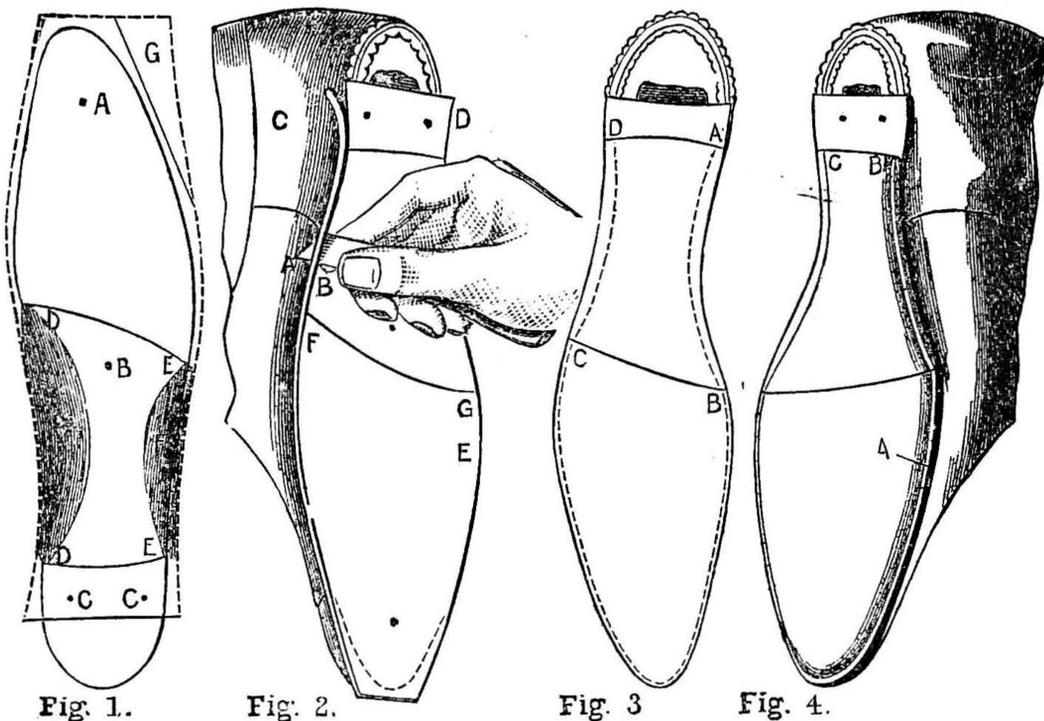

Fig. 1. Fig. 2. Fig. 3. Fig. 4.
*Construction of Parts and Putting Together.*—In Fig. 1 we have a front view of the table complete. Fig. 2 shows a side view of the same, and shows the bars between the two legs. This table will afford a good opportunity for those possessing lathes to turn the legs themselves. Fig. 3 is a view of the top. The lines marked have to be sawn through for the folding, and they had better be sawn through in a sort of half an S form, to enable it to fold better. The edges of the wood may be rounded off, to give it a better appearance. A convenient
lines in Fig. 4; the flap falls down parallel with the legs of the table. Fig. 6 is a plan of the bottom of the two legs, as shown in Fig. 1. At the back of this (Fig. 6) two bars run across, and join a similar piece on the other side. The bar is shown running across in Fig. 2. In Fig. 7 we have a drawing showing the mode of securing the legs in A (Fig. 4); a mortise and tenon joint will do. The end of the wood (A in Fig. 4) must be finished off so as to hold the leg. Fig. 8 shows the joint for the two legs, as shown in Fig. 1, and is fastened on to B in Fig. 4. The end of B must be cut to receive it. A small screw run through the back of it will make it all the firmer.
Folding Table. Fig. 1.—Front View of Table. Fig. 2.—Side View. Fig. 3.—Top of Table, with Lines for showing Folding. Fig. 4.—Showing Construction underneath the Table. Fig. 5.—Plan of Folding. Fig. 6.—Plan of Foot of Table. Fig. 7.—Method of joining Leg. Fig. 8.—Joint for Front Legs.
*The Way to Fit the Sole.*—The sole has to be wetted, and dried until it is just mellow, then hammered from the centre outwards. In this condition it is pasted well over on the flesh side. The bottom of the boot must have a coat of paste, and French chalk should be sprinkled over the felt, etc., to prevent the boot from creaking. A sole-tack is put in the centre of the toe, as at A (Fig. 1), one at B, and another one at C and C. Here the sole is tapped down all over with the hammer, and the boot held firm on the knees, by letting the strap pass across the centre of the waist, a little below B, and under the left toe. The waist at either side should be manipulated with a round-headed hammer, called a waist- or cramp-hammer.
When the waist is left in this way, and stitched through close to the edge, it is called a square waist, and is only suitable for riding and other strong boots. The thickness is taken down—not the whole way across, but only at either side—and then off the flesh side. This is the general rule. The sole is placed flat upon a board, grain side down, and a skiver taken off, as from D to D, and then another (by turning the sole the reverse way round) from E to E, leaving the skivers a little thicker at F and F. The dotted line in Fig. 1 shows the shape of the soles when bought in pairs, and also how the sole can be fitted to the boot so that, if it be a narrow toe, the piece G is not wasted. Two of these odd pieces will half heel a pair of boots, or, spliced together, will make one top-piece. Therefore, it is well to mark the sole round to the boot, and cut this piece off before putting the sole on. The dark-shaded pieces, F and F, will not, when placed upon the boot, be on top, as here shown, but underneath, next to the welt.
Boot and Shoe Making. Fig. 1.—Showing by Line the Shape of a Long Sole, and by the Dark Portions the Skiving for the Waist; also its position on the Boot. Fig. 2.—Showing how the Knife is held in rounding up, and the danger of having the Blade too far out of the Hand; also how the Upper is cut. Fig. 3.—Showing where to cut the Channel. Fig. 4.—Showing how to cut and how to open the Channel.